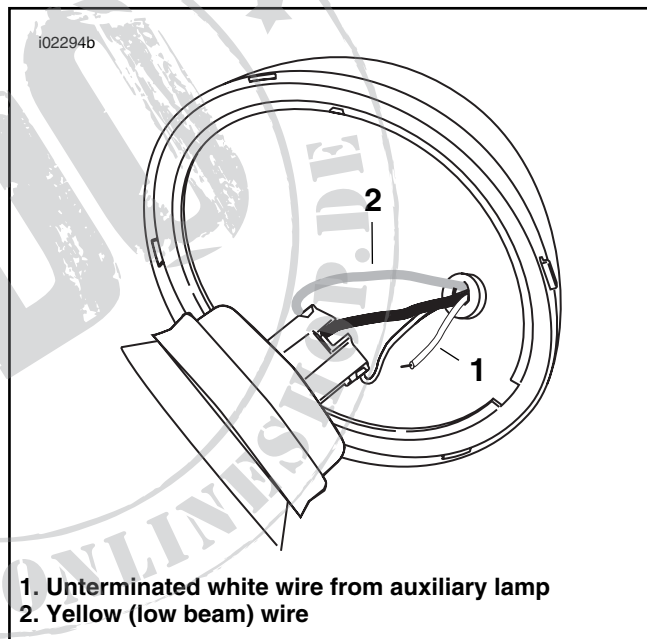

Figure 10. Splice the Unterminated Wire to the Headlight Yellow (low beam) Lead
3. See Figure 10. Route the unterminated white wire from the auxiliary lamp harness through the grommet in the headlight housing.